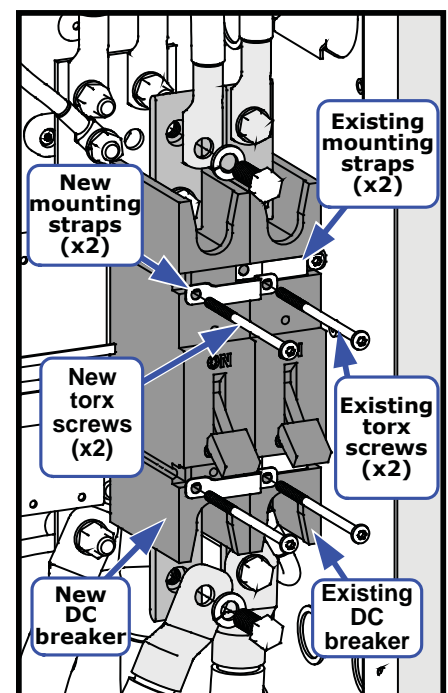

Fig. 3-7, Removing Breaker Screws Fig. 3-8, Attaching the New DC Breaker
1. Using a T25 screwdriver, remove two of the #10-32 x 3½" Torx screws that secure the existing DC breaker to the mounting plate – the removed screws should be the two that are adjacent to where the new DC breaker will be mounted (see Figure 3-7).